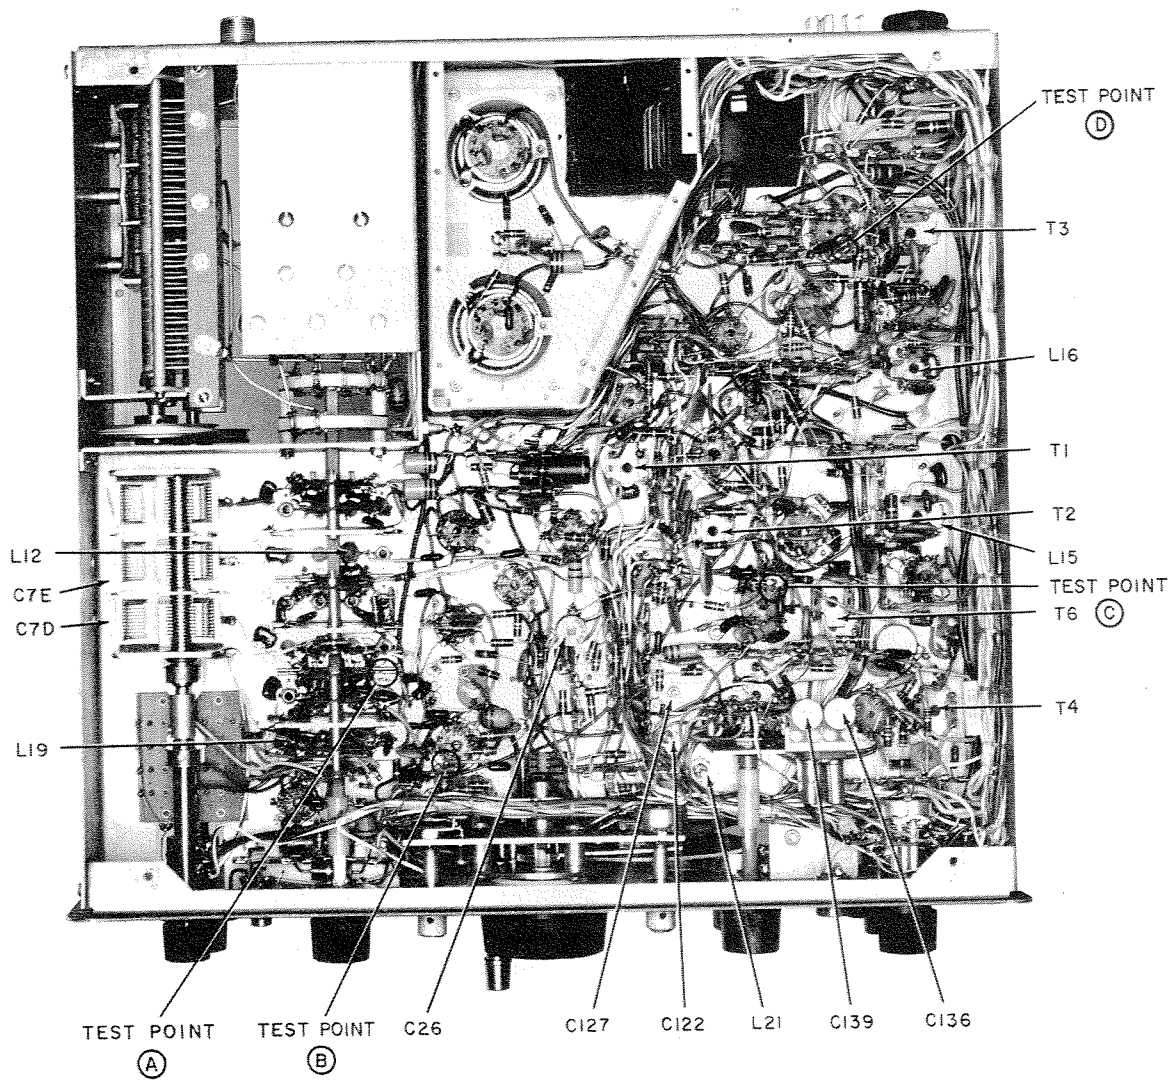

Figure 16. Model SR-2000 Bottom View, Alignment Adjustments.
1. Remove the bottom cabinet cover per paragraph 7-1B to gain access to the adjustment screw of trimmer C122. See figure 16 for location of the trimmer.
The signal source for alignment may be obtained from an RF signal generator (at 1650 KC) or the transceiver can be tuned to the 100 KC crystal calibrator signal in the 20M band. (Any 100 KC marker.) If an RF signal generator is used, connect its output to pin 2 of the second receiver mixer tube (V4A). Test point  $\textcircled{C}$ . (See figures 16 and 22.)
A. Remove the heterodyne oscillator tube (V12) and connect the HP410B VTVM RF probe to test point (B) (Pin 2 of the second transmitter mixer tube V11A). See figures 16 and 22.
A. Connect the 50-ohm dummy load and VTVM RF probe to the ANTENNA jack (J1). Connect the RF signal generator termination to test point A. (See figures 16 and 22.) Connect the signal lead to the receiver antenna coaxial cable termination at switch wafer S1D (4th wafer from front) and the ground lead to the first shield plate. Connect the AF voltmeter across the 500 ohm audio output transformer winding at the RCVR AUDIO jack (J3) located at the rear chassis apron. This arrangement will now permit transmitter and receiver operation without connecting and disconnecting test equipment repeatedly during alignment.
E. Set the OPERATION control at REC., RF and AF controls (receiver group) at maximum (10), RIT control at OFF, and NOISE BLANKER at OFF. Do not change the VFO setting and PRESELECTOR control setting set up in step D. Tune the RF signal generator to 28,000 KC and adjust it for approximately 1000 CPS beat note. Use just enough signal generator output (approximately one microvolt for an aligned unit) to keep from developing AVC voltage (no "S" meter indication). Adjust coil L5 for maximum audio output without developing AVC voltage.